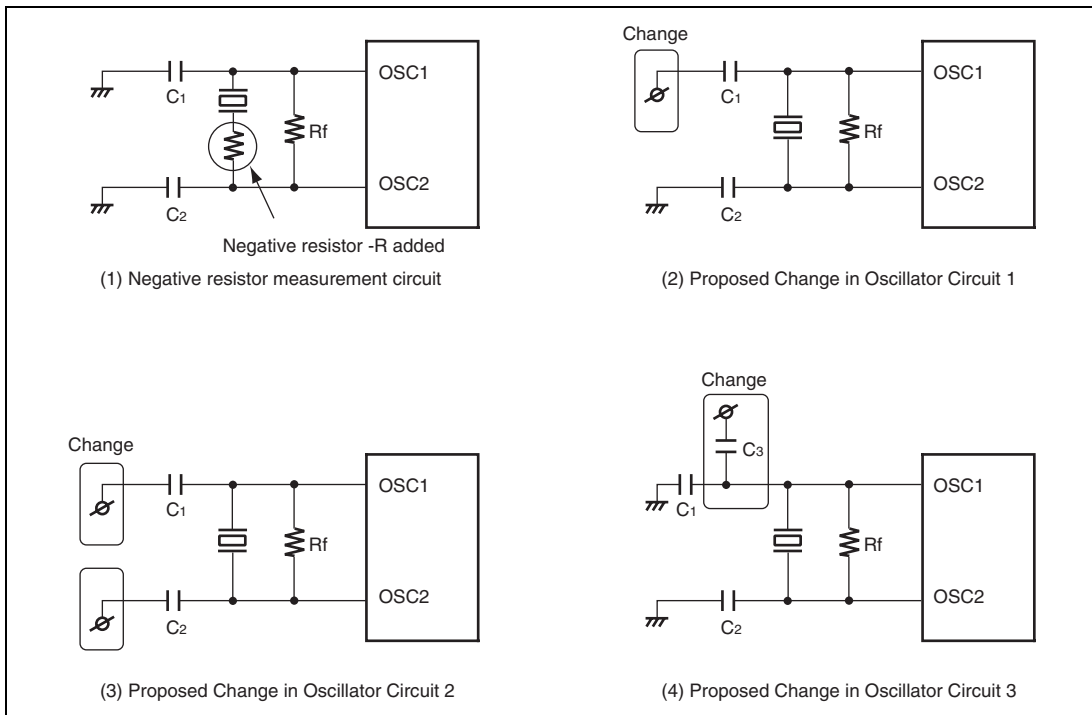

Figure 4.13 Negative Resistor Measurement and Proposed Changes in Circuit
Figure 4.13 (1) shows an example of the measurement circuit for the negative resistor which is recommended by the resonator manufacturer. Note that if the negative resistor in this circuit does not reach the level which is recommended by the resonator manufacturer, the main oscillator may be hard to start oscillation.
If the negative resistor does not reach the level which is recommended by the resonator manufacturer and oscillation is not started, changes as shown in figure 4.13 (2) to (4) should be made. The proposed change and capacitor size to be applied should be determined according to the evaluation result of the negative resistor and frequency deviation, etc.